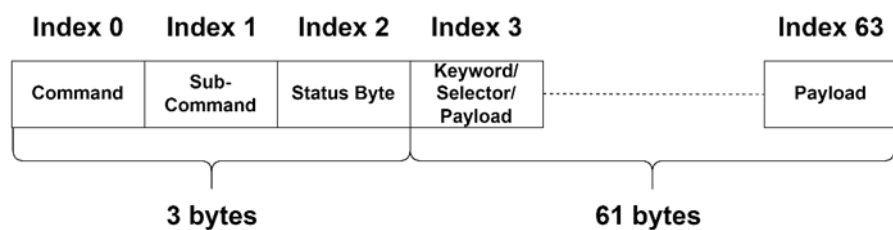

Figure 1: Frame of the Teleshake (95) AC USB communication protocol
For the "Teleshake (95) AC USB" device family a communication protocol is provided that consists of 64 bytes (Figure 1).